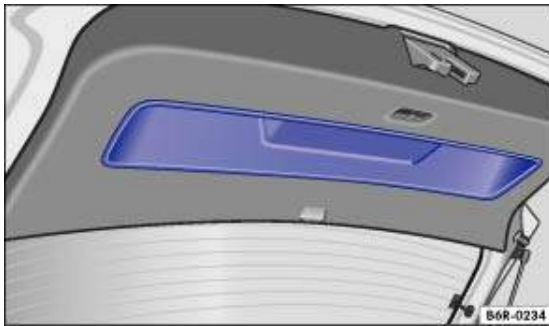

Fig. 35 Open tailgate: handle recesses for closing the tailgate
- Grip one of the recesses in the interior trim of the tailgate → Fig. 35.